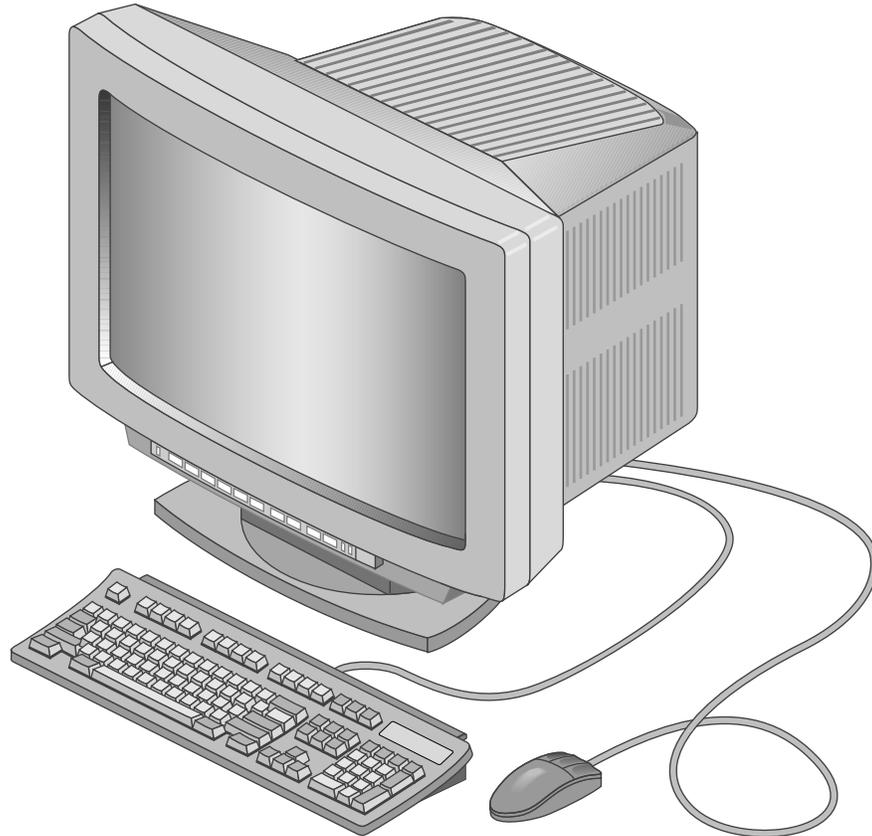

Figure 4-7 SuperWide Monitor
- 13W3-13W3: For use with the Silicon Graphics 24-inch (SuperWide) monitor and other compatible monitors; see Figure 4-7.